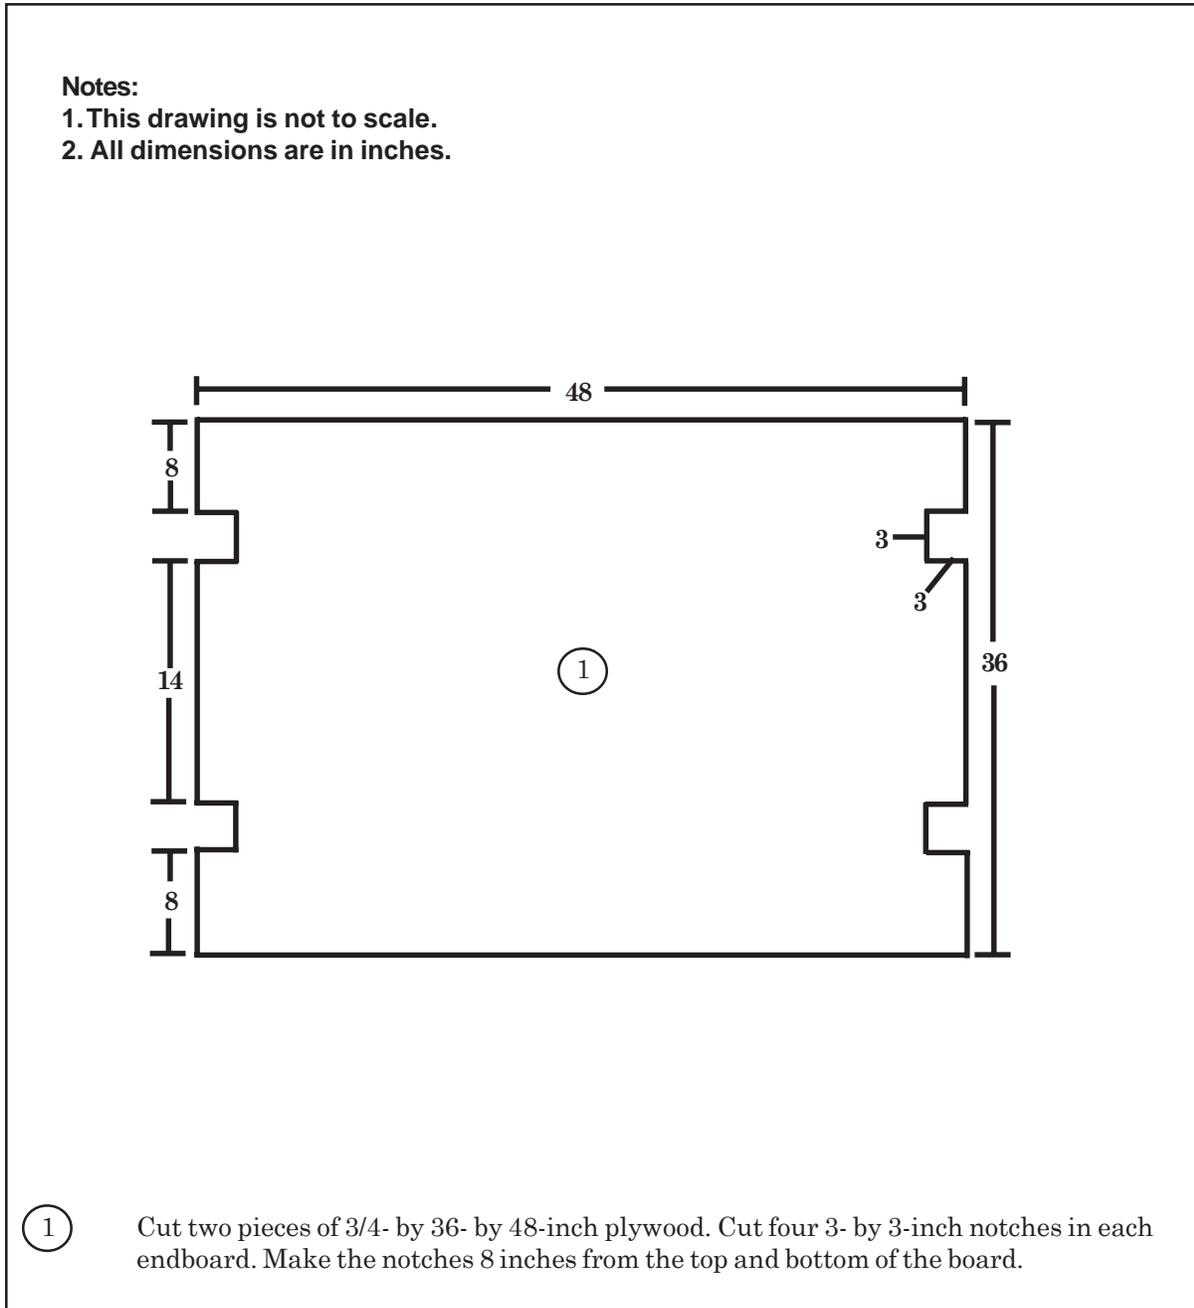

Figure 1-28. Endboards Constructed
- a. Construct two endboards as shown in Figure 1-28.